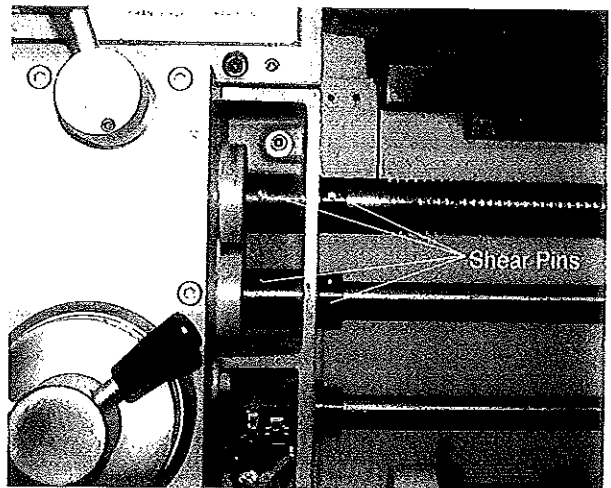

Figure 4
2. If the gearbox is in order and the feed or lead screws are not turning check the shear pins. (There are two shear pins on each shaft). (**Figure 4**)